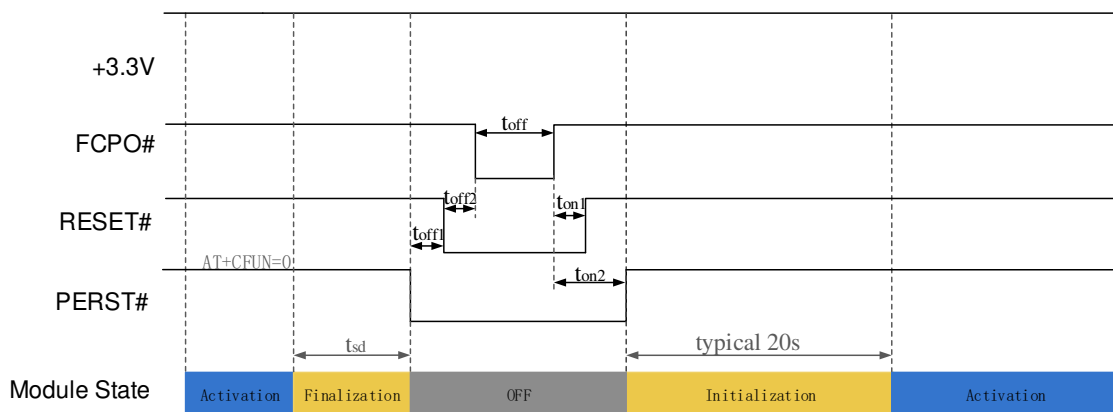

Figure 3-9 Reset control timing2nd
- Reset timing 2nd in Figure 3-9, PMU of module internal will be off in reset sequence (including whole power off and power on sequence,  $t_{sd}$  can refer section 3.3.2), recommend using in system warm boot.